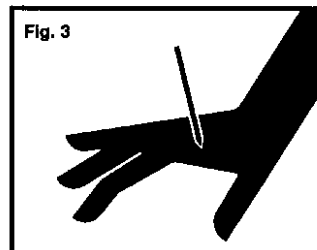
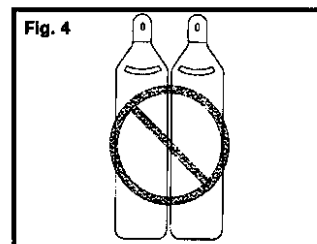

Fig. 3
Fig. 4
5. Never point tool at yourself or others in work area. Fig. 3
6. Never use oxygen or other bottled gasses. Explosion may occur. Never use combustible gases or any other reactive gas as a power source for this tool: explosion and serious personal injury could result. Fig.3 & Fig. 4.